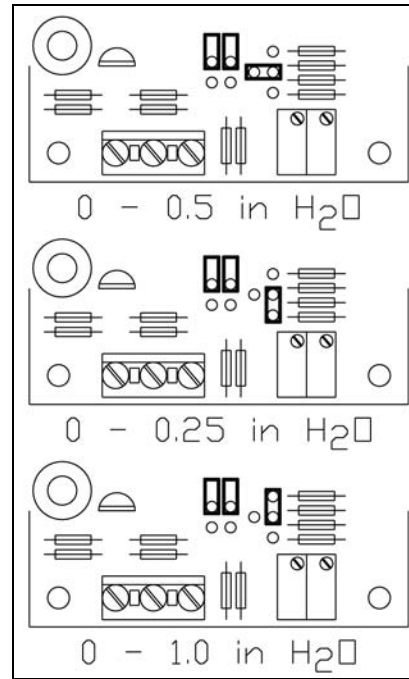

Figure 3: Pressure Transducer Jumpers
6. Verify that the jumpers on the pressure transducer are installed correctly, per Figure 3. The default pressure transducer output range is 0 to 0.5 in H₂O.